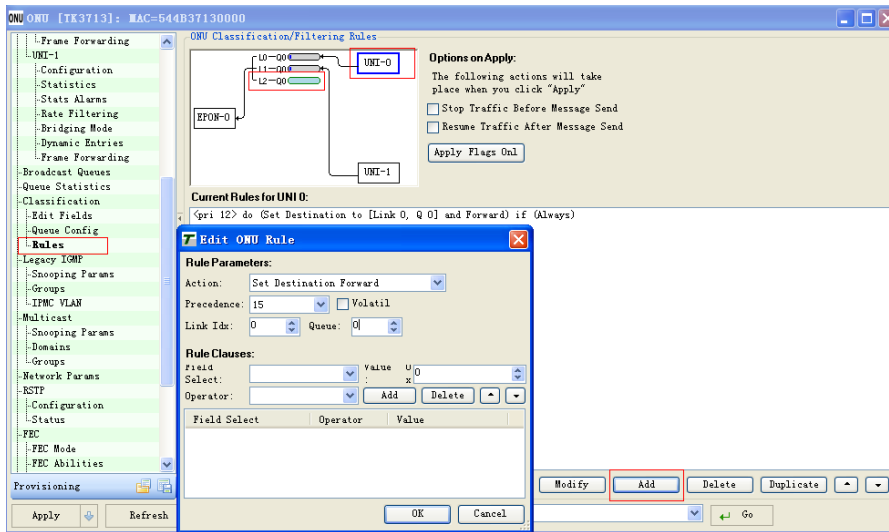

Figure 8-11 Edit Link Rules
- 3) Open the Rules window, add the links to the UNI-0 (the links can also be added to the UNI-1) and select UNI-0 and link L2 in the structural chart; and then click Add to display the window of edit link rules shown in the Figure 8-11;